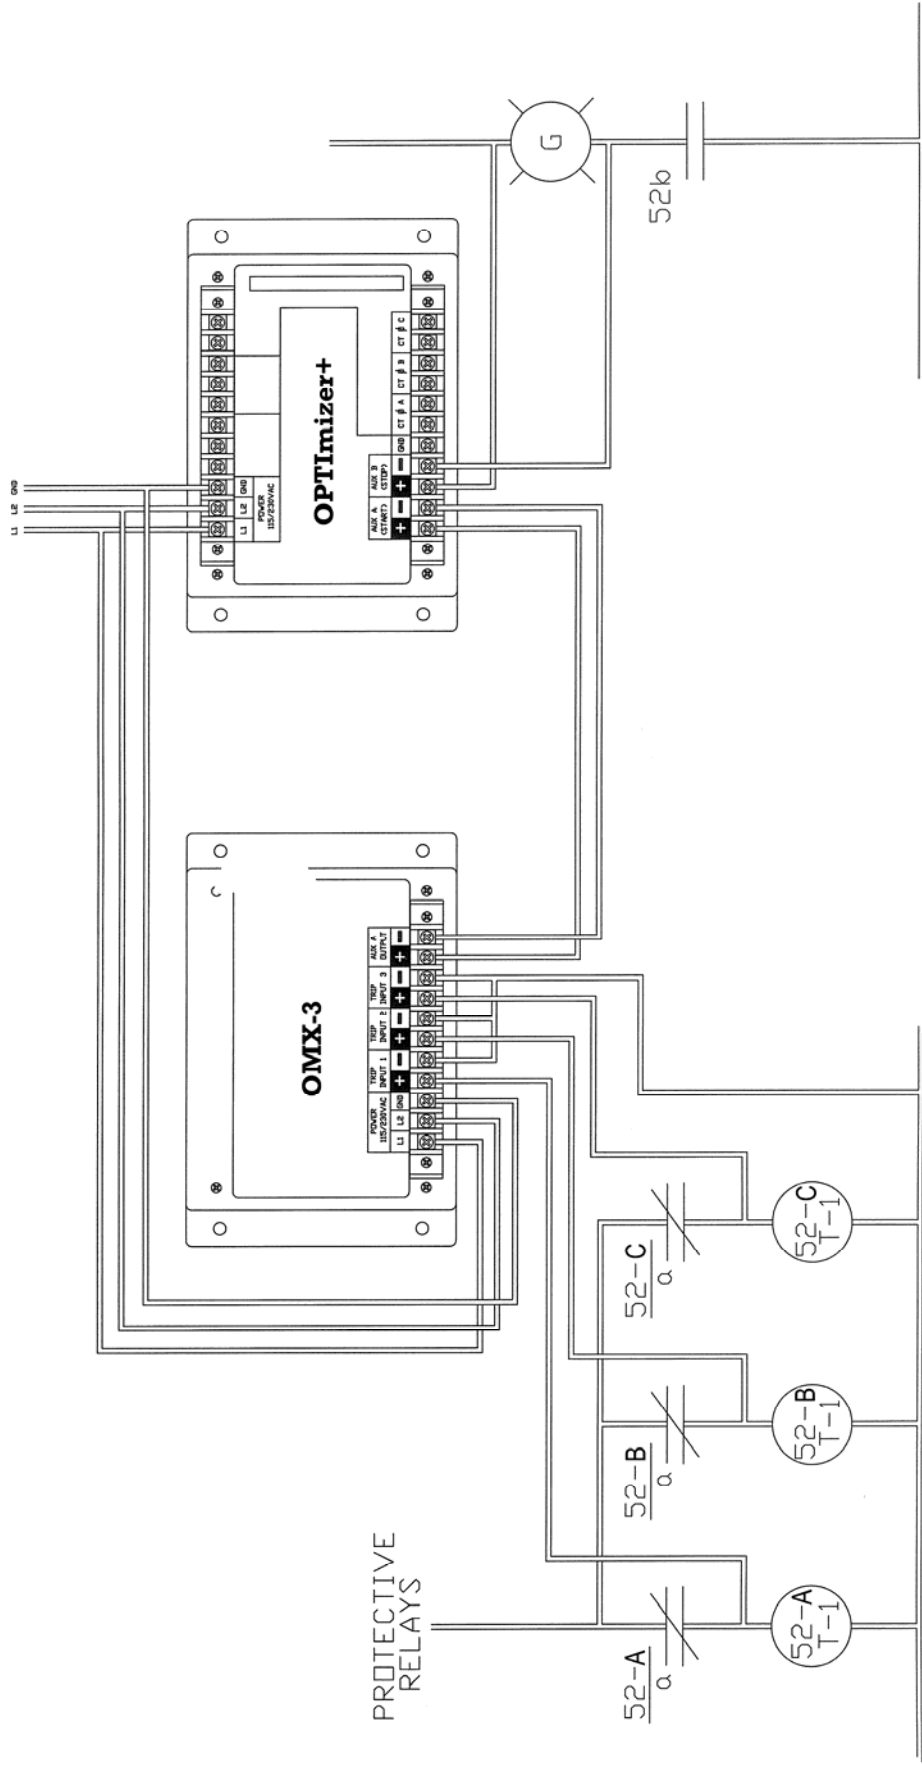

Figure 1.5 Field Wiring Diagram: Individual Pole Mechanisms with Parallel-Ganged, Single Trip Circuits
4. **Individual Pole Mechanisms, with Parallel-Ganged Trip Circuits (Figure 1.5) – Long**